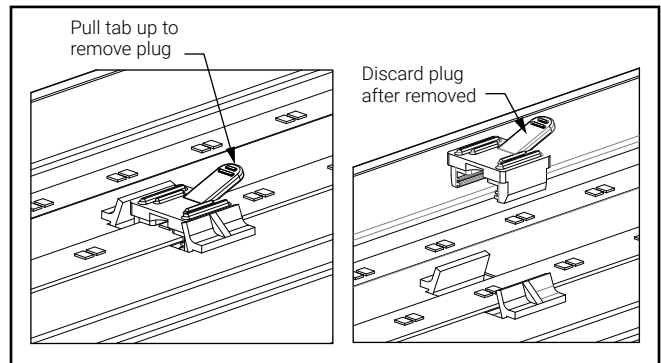

Figure 4.
3. For 8ft fixtures ONLY, there are RED gear tray retention plugs (8AWS Qty 5, 8AWWS Qty 9) that MUST be removed. To remove these RED retention plugs, pull up the tab on the side of the plug, so they become completely detached from the gear tray (Figure 4). After plugs are removed they can be discarded, no longer needed.